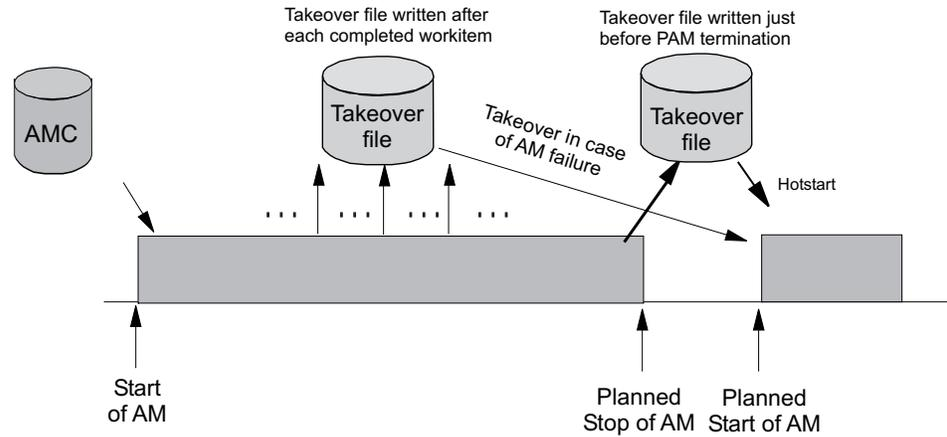

Figure 3. Using Only the Takeover File for Status Backup
Figure 3 on page 37 illustrates the timeline from the start of the automation manager (AM) through to its termination for the following cases: